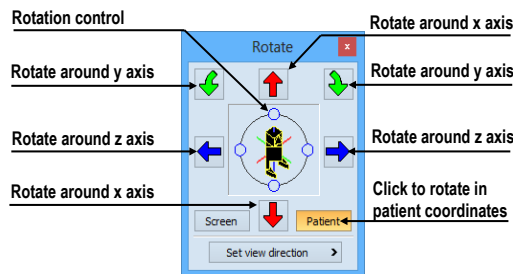

Figure 315 – Rotate tool (Patient mode)
- rotation in patient coordinates (see Figure 315)